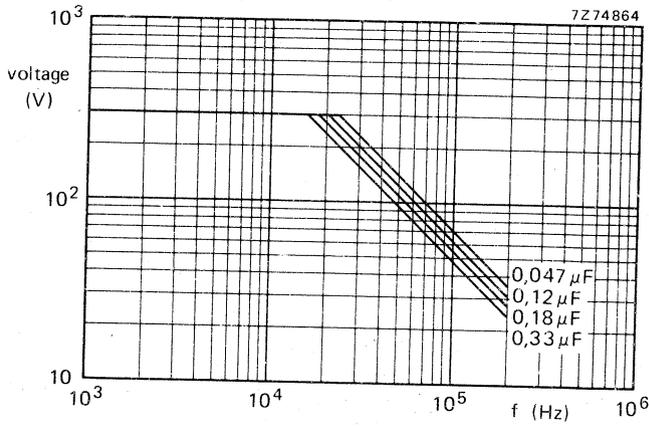

Fig. 3 Maximum permissible r.m.s. value of sinusoidal voltages as a function of frequency at $T_{amb} \leq 70$ °C, for 630 V version.
* At $T_{amb} \leq 70 \text{ }^\circ\text{C}$ the maximum permissible sinusoidal voltage can be found in Figs 3 to 6.